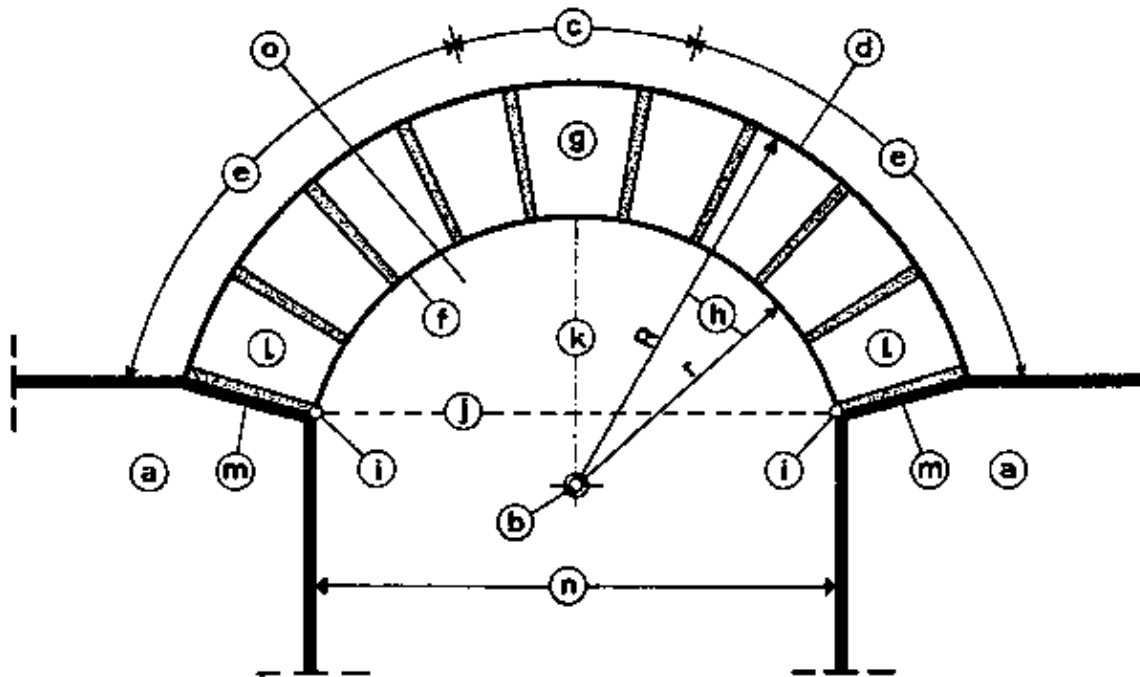

Fig. 1
Before we continue with this chapter, it is essential to understand the technical terms that are used in connection with arches. The terms below are indicated in Fig. 1.
- **ABUTMENT:** The word “abut” means to meet at one end or to border on something. An abutment (Fig. 1, a) is that portion of solid masonry that carries the weight of the structure of an arch. In Rural Building, the minimum width of an abutment at the end of a wall should be 3/4 of the span of the arch. This means that the distance from the arch to the end of the wall should be at least 3/4 of the span of the arch.